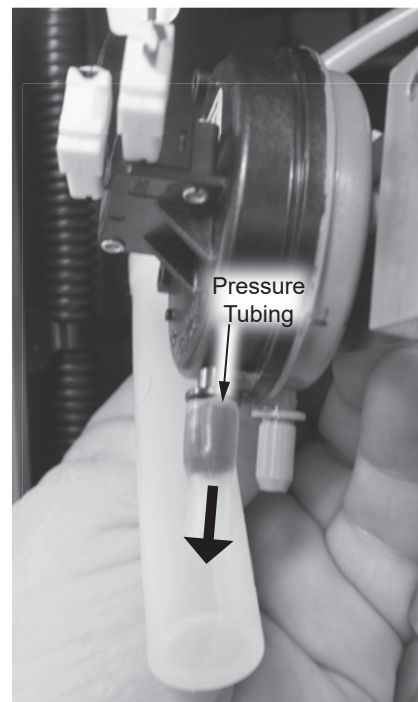

Figure 71 - Removing the pressure tube
**NOTICE:** Be careful not to damage the pressure tubing. See Figure 71.